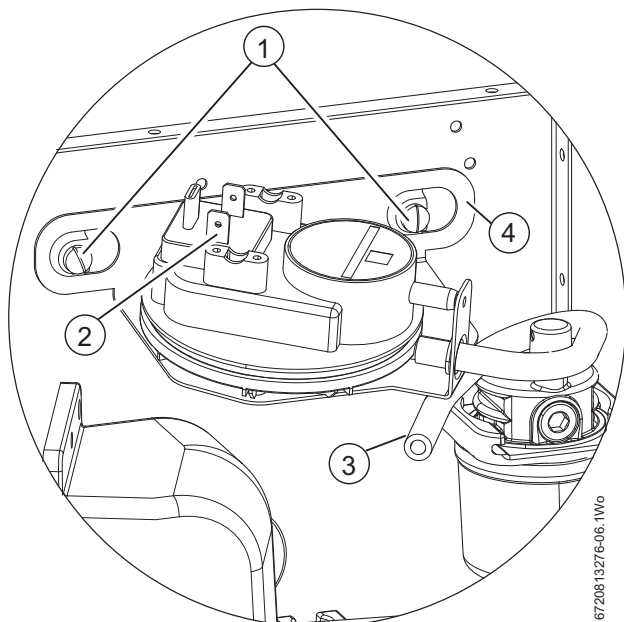

Fig. 75
- ▶ Re-connect the tube [3] to the switch, ensuring routing is looped as in figure 75.